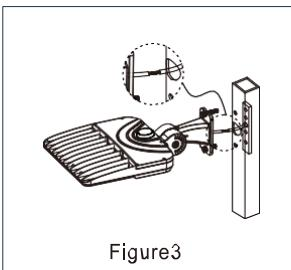

Figure3
3. Complete the wiring. (Figure 3)
3. Complete the wiring, fix the light fixture to the bar adapter with screws. (Figure 3)